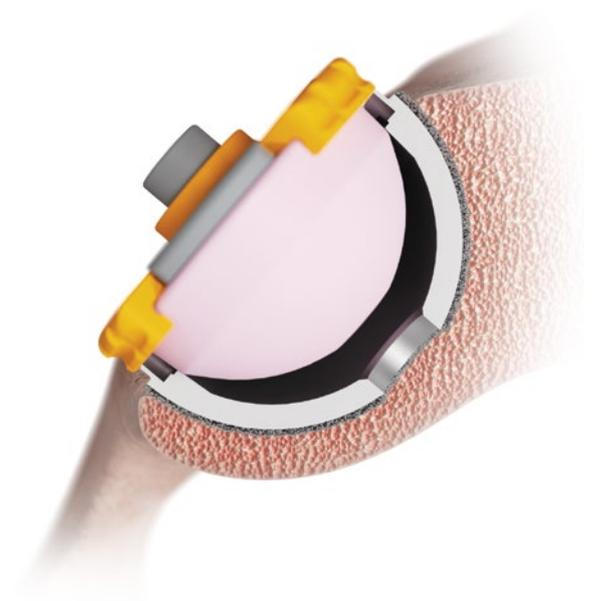

Figure 35.
- Ensure all three gripper legs are in contact with the face of the acetabular shell (Figure 35).